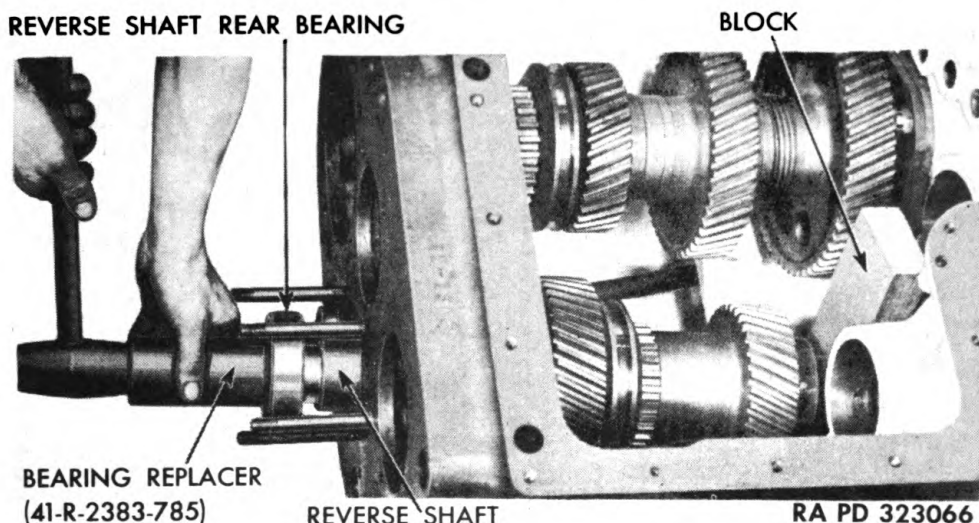

Figure 66 — Installing Reverse Shaft Rear Bearing
i. **Install Reverse Shaft Assembly.** Hitch a strap or rope around reverse pinion, and lower shaft assembly into transmission case (fig. 44). Slide rear end of shaft through bearing bore in rear of transmission, and place hardwood block between front end of shaft and transmission case. With bearing replacer (41-R-2383-785), drive rear bearing onto end of shaft (fig. 66). Install and securely tighten rear bearing lock nut. Install two cap screws and lock washers in lock nut. Remove wood block and drive reverse shaft assembly toward front of transmission case until front bearing just starts into case. **NOTE:** *Do not drive front bearing all the way into case, as it would have to be removed again to install countershaft.*